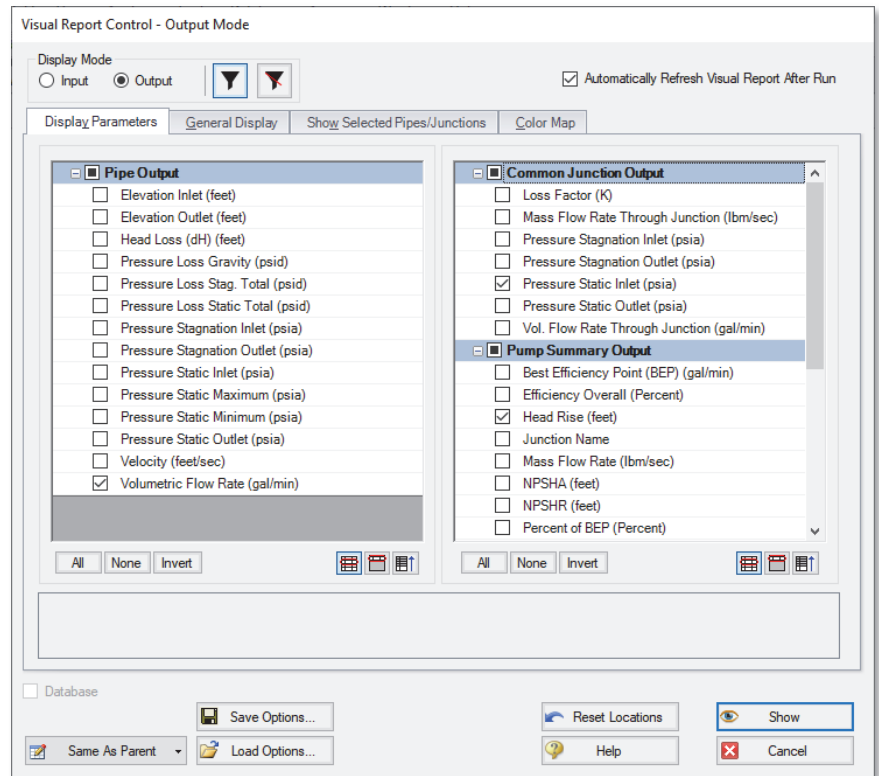

Figure 2.21 The Visual Report Control window selects content for the Visual Report window
- **Change to the Visual Report window** by clicking on the Visual Report tab, choosing it from the Window menu, or pressing CTRL-I. This window allows you to integrate your text results with the graphic layout of your pipe network. When the Visual Report window is first opened, the Visual Report Control will be opened automatically as is shown in Figure 2.21. If Visual Report Control is not open, it can be launched from the Toolbar or View menu.